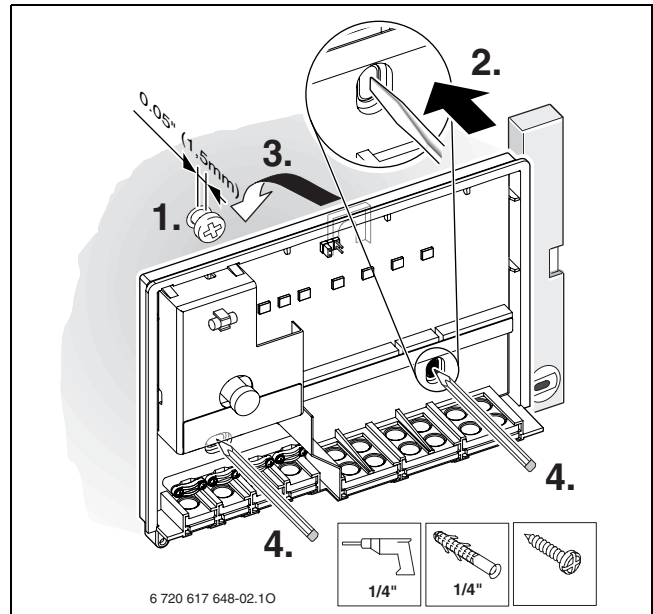

Fig. 7 Upper attachment screw
- ▶ For the upper attachment screw, drill a \varnothing 1/4" (6 mm) hole, insert an appropriate wall anchor, and insert the screw until only 1/16" (1.5 mm) protrudes (→ Fig. 7).